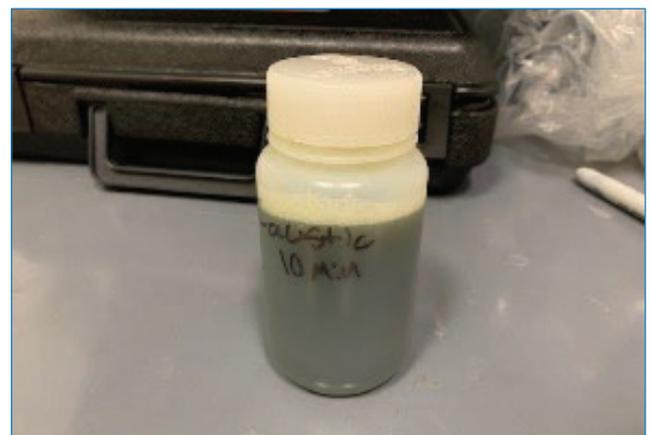

Figure 2.
- Caustic concentration titration was hard to achieve given sample color (figure 2).